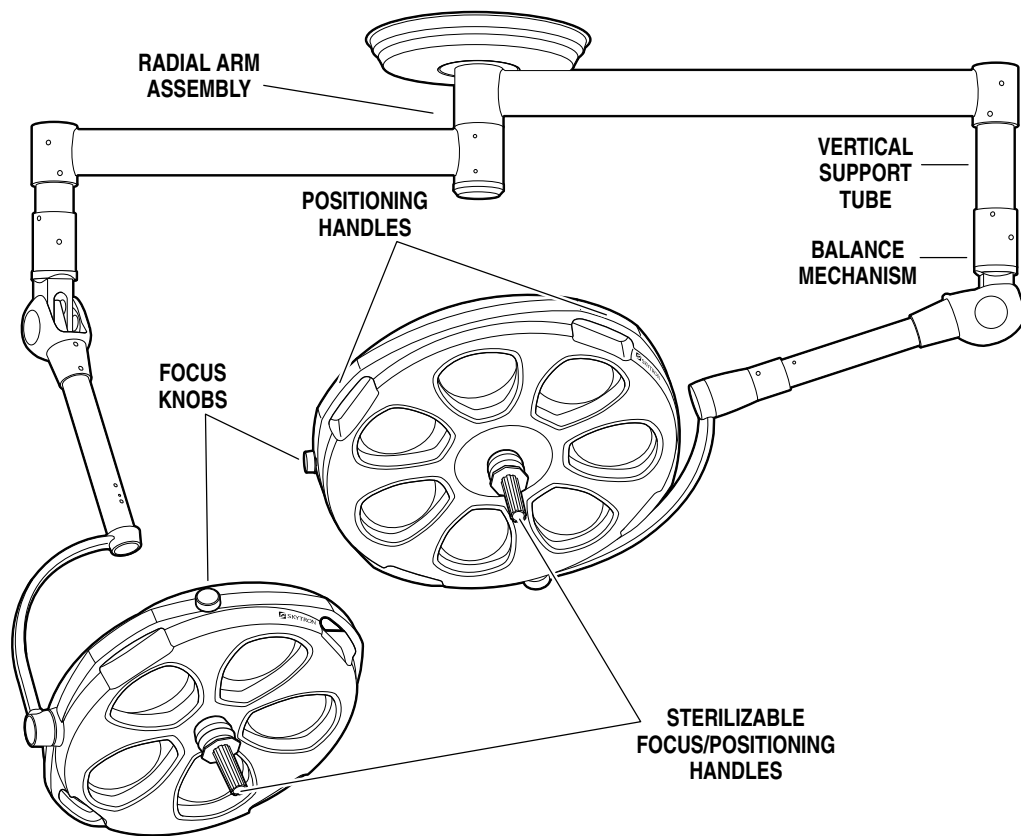

Figure 3. Dual Lighthead Fixture
1. Position the lighthead as required by grasping the lighthead positioning handles and moving the lighthead to the desired position. See figure 3.